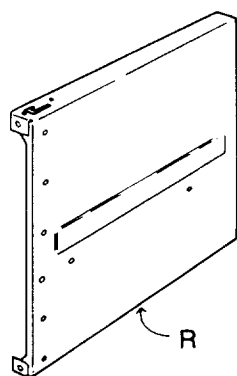

Fig. 17
8. Find the *right* and *left side panels*. Look carefully to find the “R” and “L” stamped in the metal near the center of the wide edge. These stamps are the easiest way to tell the *right side panel* from the *left*. (Figure 17)